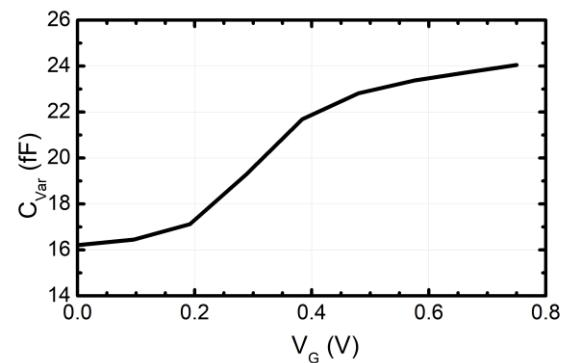

Figure 4 Measured HF C-V characteristics of a n -FinFET with 192 fins, gate length $L_g = 8 \text{ nm}$ and effective fin width $W_f = 90 \text{ nm}$.
- d) If the measured n -finFET in Figure 4 is composed of 192 fins in parallel, each with length $L_g = 8 \text{ nm}$ and effective width $W_f = 90 \text{ nm}$, estimate the equivalent oxide thickness t_{OXE} of the n -finFET and the thickness of the silicon fin. (1 mark)